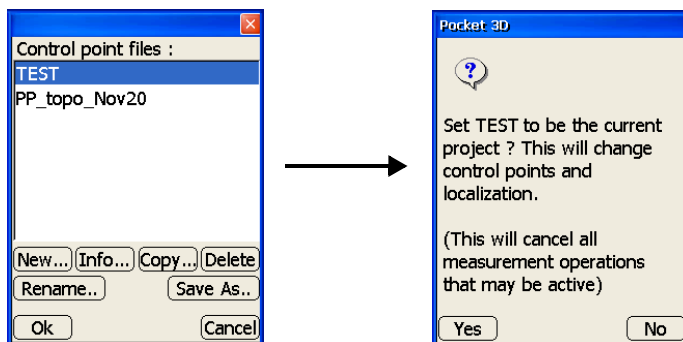

Figure 2-4. Set Control File to Current Project
6. Press **Ok** to return to the **Control files** dialog box, select the newly created Control Point file and press **Ok** (Figure 2-4 on page 2-4).
7. At the **verification** screen, press **Yes** to use this Control Point file for the current project (Figure 2-4).